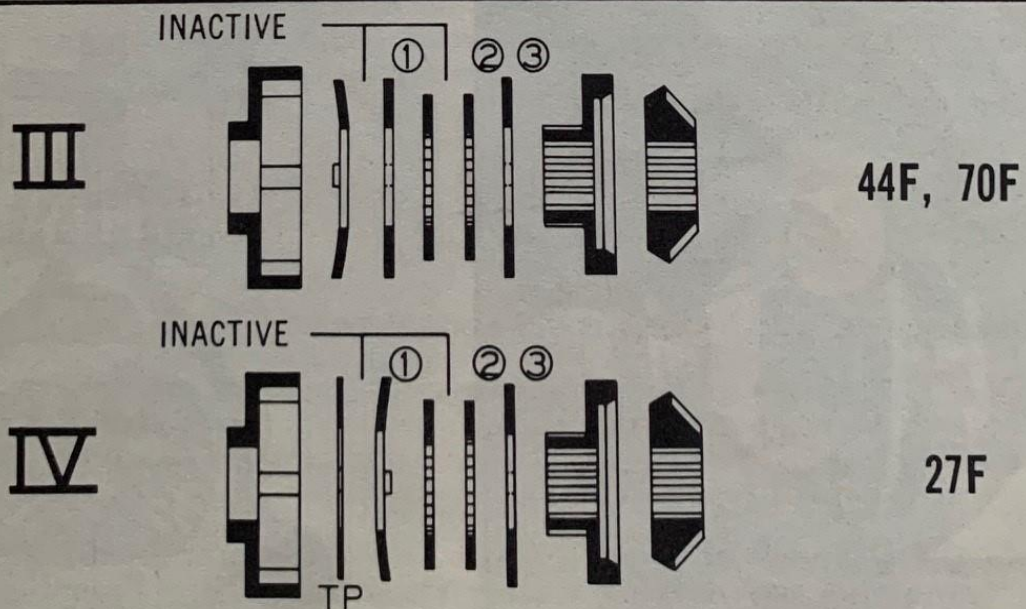

Fig. 1
NOTE: Care should be taken to see how the friction plates and friction discs are assembled. (See Fig. 1.) The exact location and orientation of the Belleville Spring Plate used on each side should be noted here.
See Fig. 1 for Disc & Plate Arrangements per Model
3. Assemble the proper number of clutch friction plates and clutch friction discs on the splined hub of each bevel side gear. Make sure the plates and discs are arranged correctly. (See Fig. 1.)